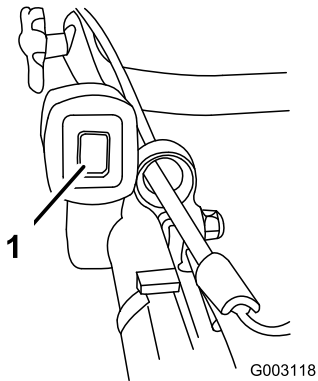

Figure 14
1. Push the ignition toggle switch to the On (I) position (Figure 14).